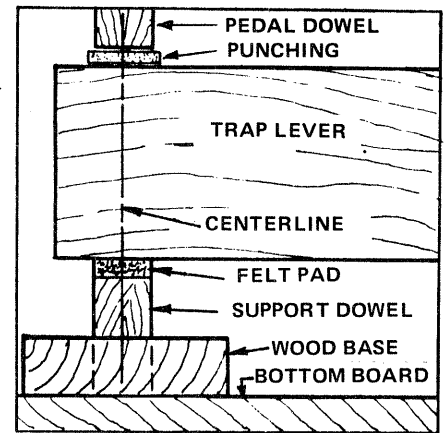

FIGURE 6-7 Align the Support Dowel under the Pedal Dowel.
Get the two (2) Wood Bases (PN 100-02A049-1) and place them on the Bottom Board. Insert a Support Assembly in the hole in each of the Bases (felt padded end up). Slide the Base with the SUS Support Assembly under the SUSTAIN Trap Lever and align the Support Assembly directly under the Pedal Dowel as shown in FIGURE 6-7.